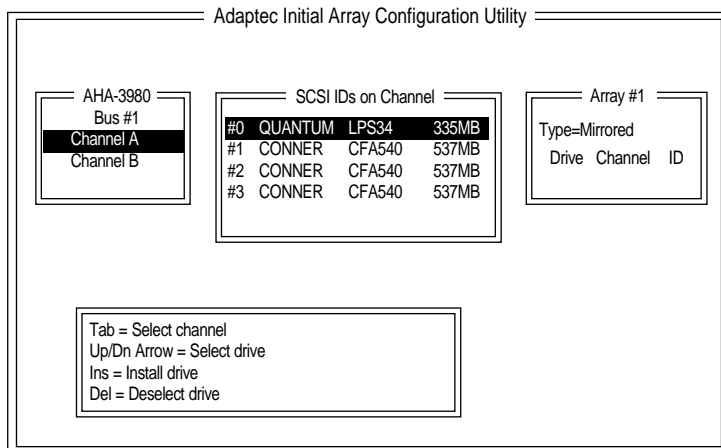

Figure 6-17. Selecting Drives for an Array
- 7 When the next screen appears, as shown in Figure 6-17, press **Tab** to highlight a channel. When the drives on the highlighted channel appear in the **SCSI IDs on Channel** menu, select the drives for the array. (Press the **↑** and **↓** keys until the drive name is highlighted, then press **Ins** or **Enter**.) The names of selected drives appear to the right, in the **Adaptec Array #** box.